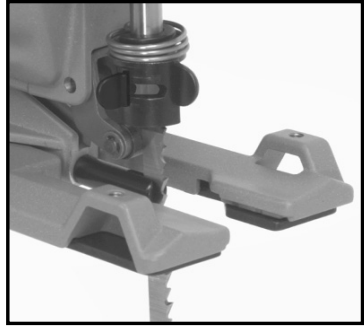

Fig. 4
5. With the teeth of the blade toward the front of the saw, insert the blade through the blade guide into the blade holder as far as it will go and release the levers. See Fig. 4.
6. Pull up on the blade until it locks in place. The blade is properly installed when the levers are aligned as shown in Fig. 4.